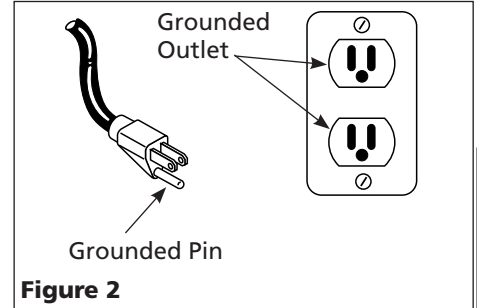

Figure 2
1. This product is for use on a nominal 120 volt circuit and has a grounding plug that looks like the plug illustrated in Figure 2. Make sure the product is connected to an outlet having the same configuration as the plug. Do not use an adapter with this product. This product must be grounded.